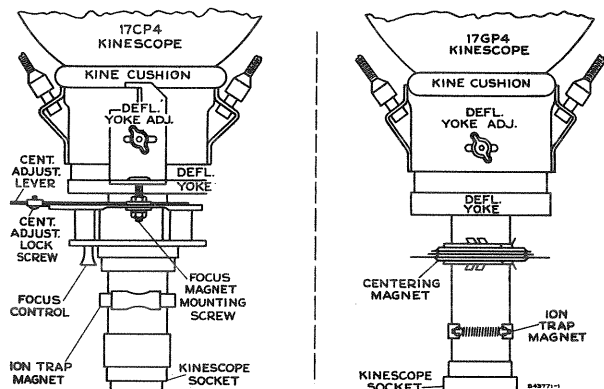

Figure 2—Ion Trap Magnet and Centering Adjustments
**ION TRAP MAGNET ADJUSTMENT.**—Set the ion trap magnet approximately in the position shown in Figure 2. Starting from this position immediately adjust the magnet by moving it forward or backward at the same time rotating it slightly around the neck of the kinescope for the brightest raster on the screen. Reduce the brightness control setting until the raster is slightly above average brilliance. Turn the focus control until the line structure of the raster is clearly visible. Readjust the ion trap magnet for maximum raster brilliance. The final touches of this adjustment should be made with the brightness control at the maximum clockwise position with which good line focus can be maintained.